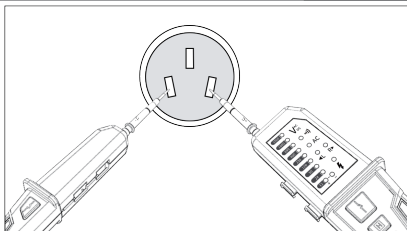

Fig.3
1. Before the formal testing, select a known voltage object, and then connect the two probes to it, such as a 220V socket, to ensure the accuracy of the tester (see Figure 3). This tester cannot test AC or DC voltages below 12V. When testing a voltage of $<12\text{V}_{\text{ac/dc}}$, the LED indicator may not be lit.